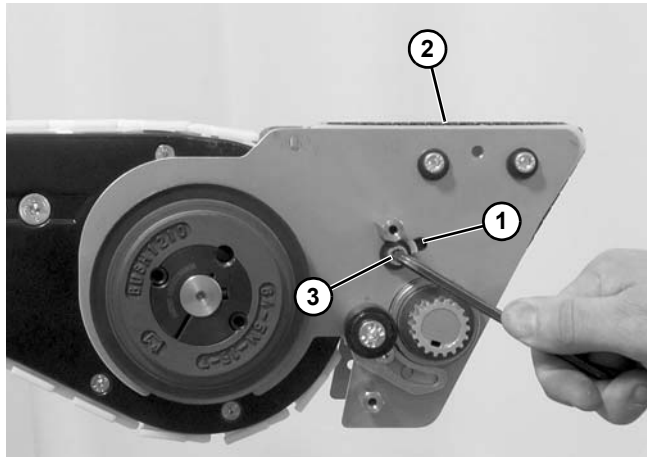

Figure 176
9. Slide idler assembly within slot (**Figure 176, item 1**) only enough to remove excess slack from belt (**Figure 176, item 2**). Tighten socket head screws (**Figure 176, item 3**).